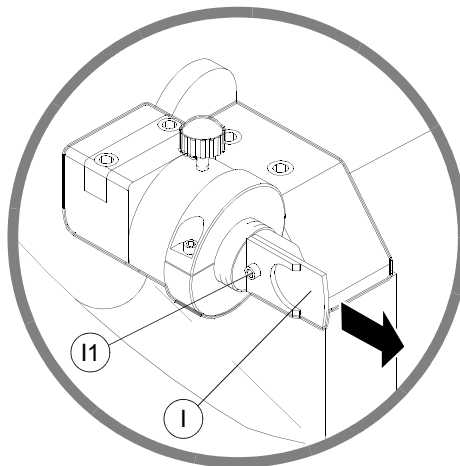

Fig. 21
To replace the tracer point (I), proceed as follows (fig. 21):